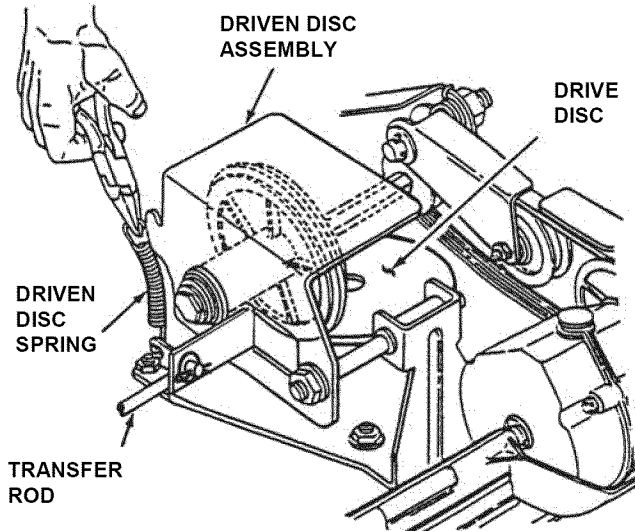

FIGURE 8
1. Remove driven disc spring from driven disc assembly as shown. See Figure 8.
7. Replace driven disc spring to driven disc assembly. See Figure 8.